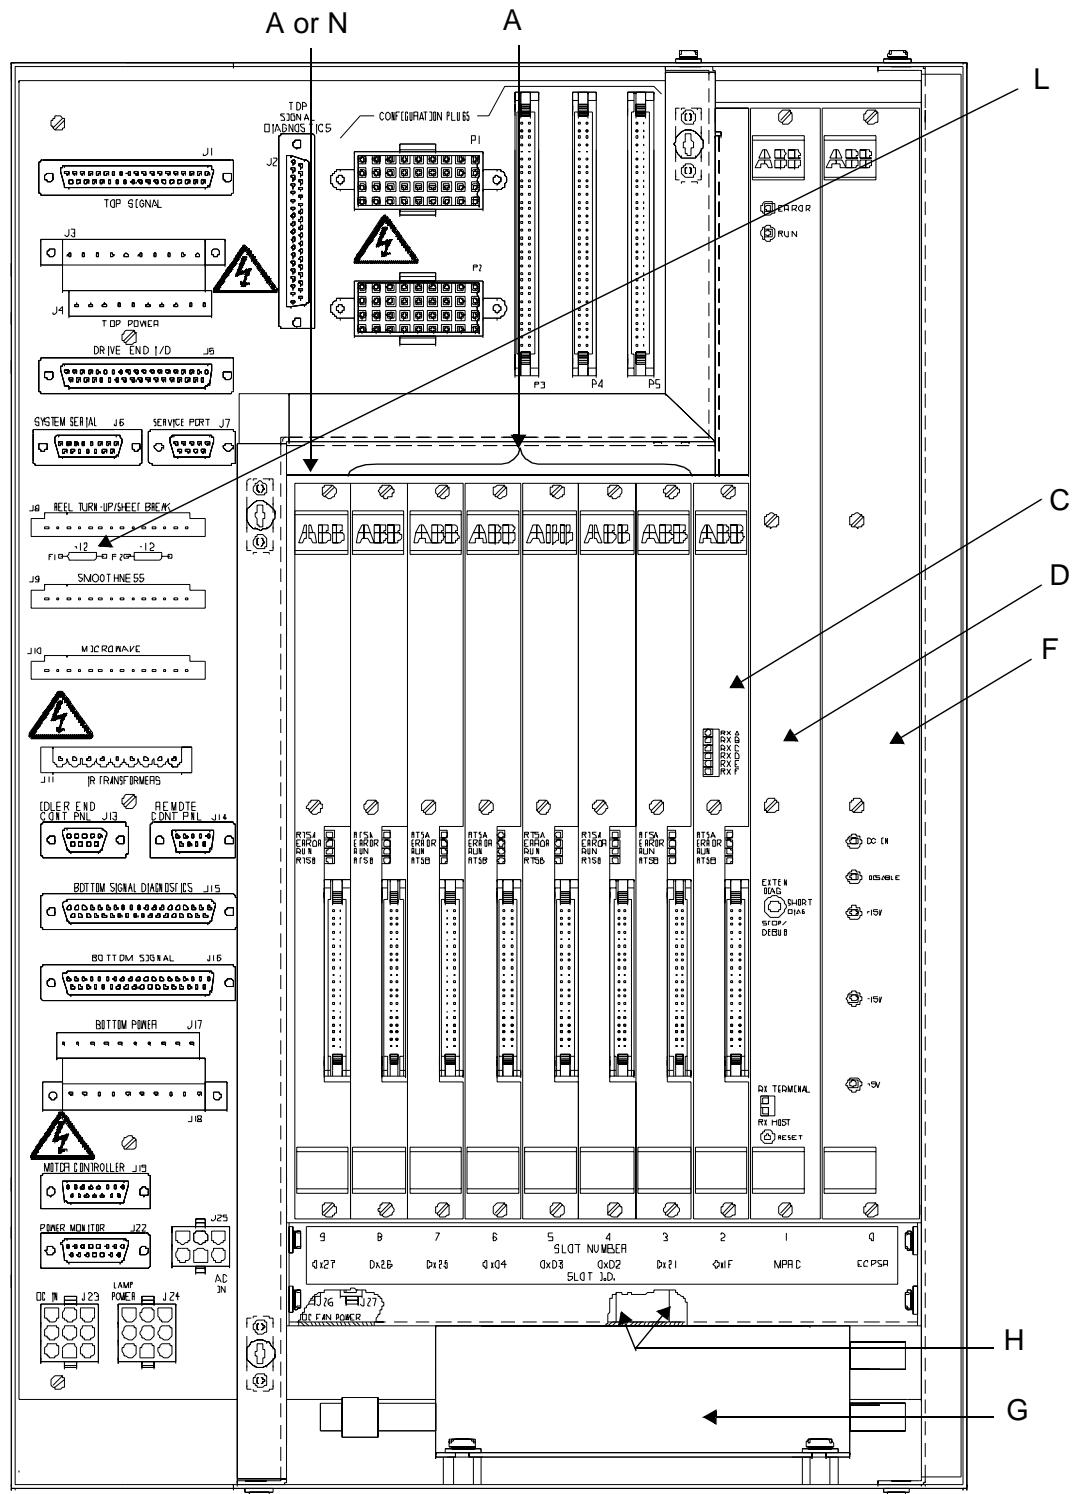

Figure 10-17 SP Electronics Cabinet (086345-004 Backplane Version)
- Figure 10-17 on page 218
The power supply is in the Scanning Platform electronics cabinet. Use the following table to troubleshoot the Scanning Platform electronics. See Table 11-1 and Figure 10-17 on page 218.
These LEDs are located on the ECF and ECS boards in the Scanning Platform electronics cabinet. Use the following table to assist you in troubleshooting. Refer to Table 11-2 and Figure 10-17 on page 218.